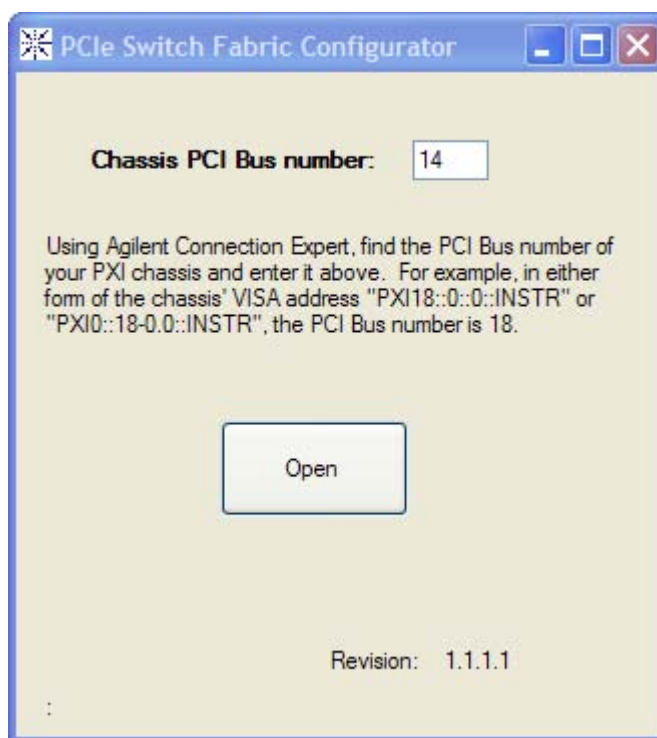

Figure 42 Configurator startup dialog
- 2 Start the **Configurator** by double-clicking `PCIeFabric.exe`, which will bring up the dialog shown in Figure 42.